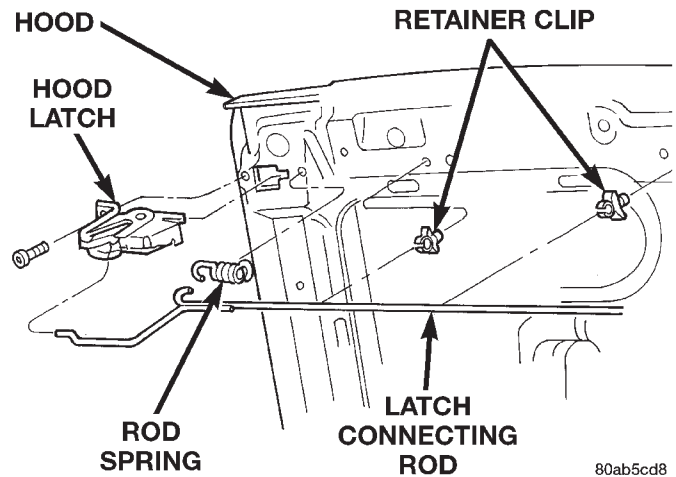

Fig. 5 Hood Latch
- (1) Remove the screw that attaches the latch to the hood inner panel (Fig. 5).
- (2) Disconnect the latch connecting rod.
- (3) Remove the latch from the hood.